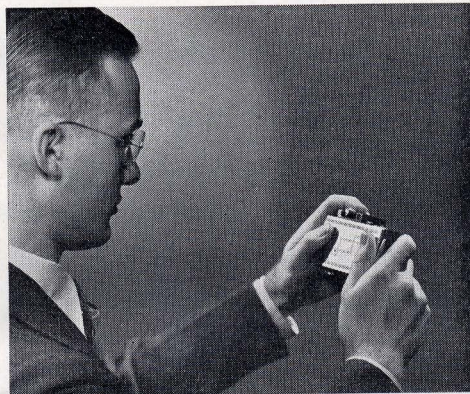

FIGURE 3
Hold the camera as shown in the accompanying illustration (figure 3) normal reading distance. Point the camera at the subject of interest and be careful not to include more sky or white background than necessary.
1. Hold the camera as illustrated (figure 3) with the forefinger of the left hand on the sliding calculator (6).